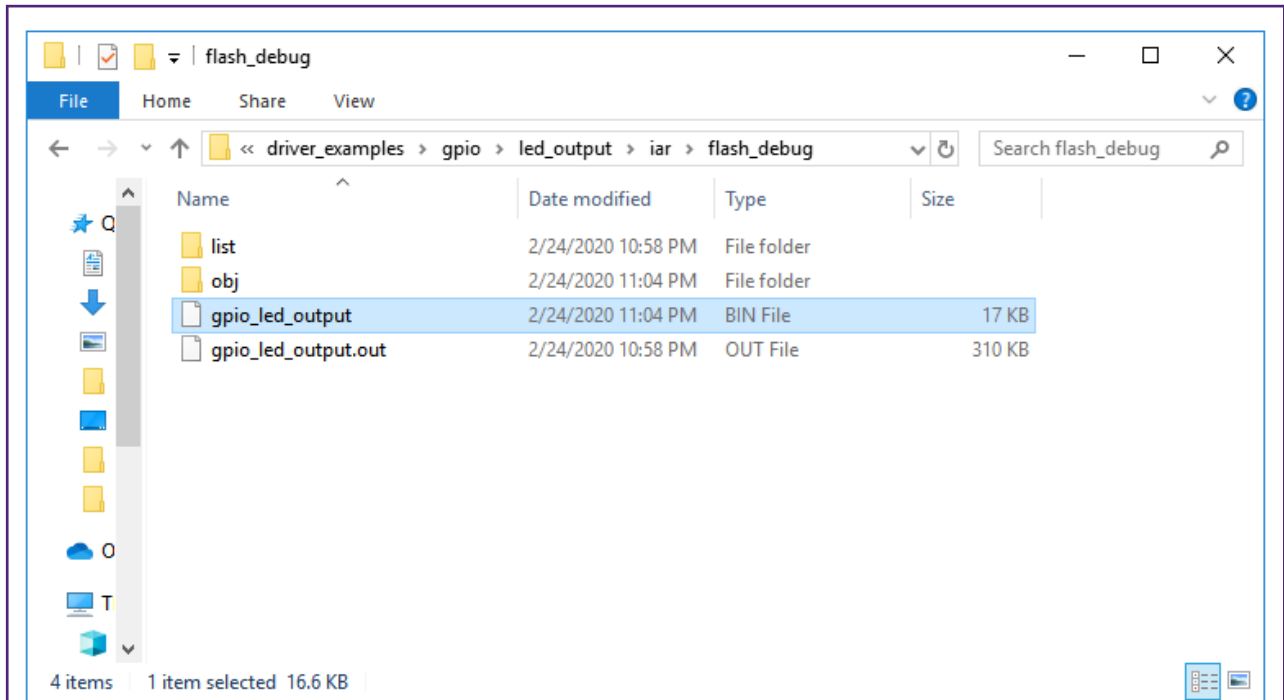

Figure 10. gpio_led_output.bin location
3. Build the project and generate an image with the .bin format. You can find the `gpio_led_output.bin`, as shown in Figure 10. This binary contains FCB data and correct image header.